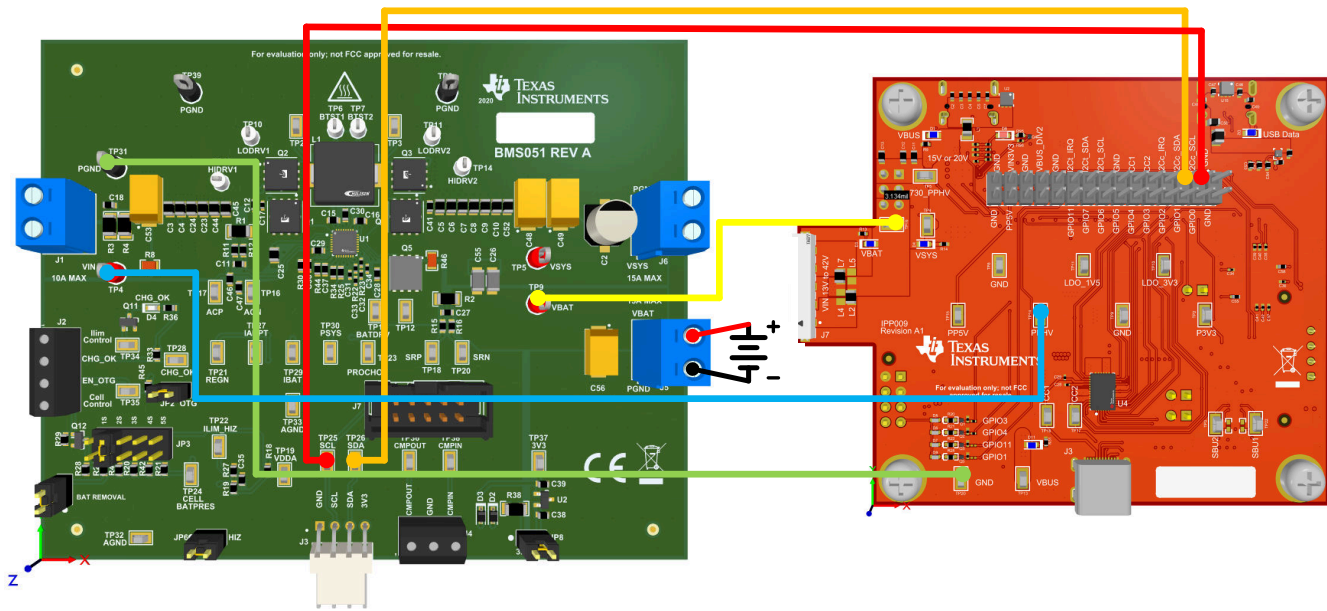
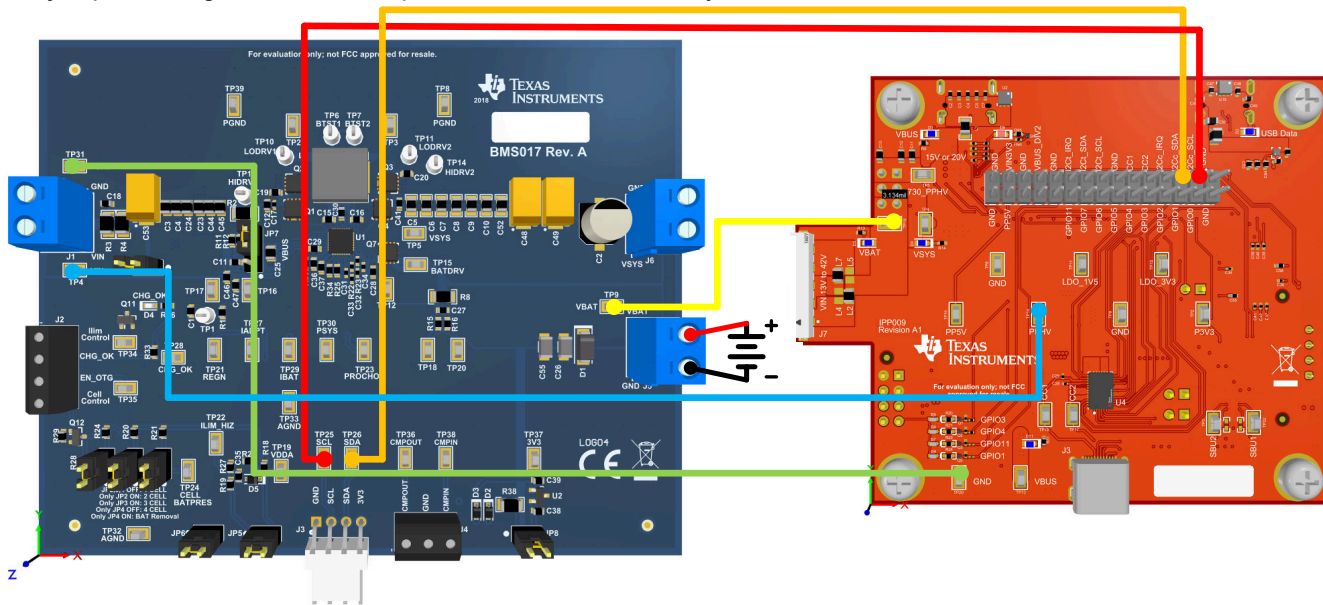

Figure 4-8. TPS25751EVM and BQ25731EVM Hardware Setup
Figure 4-9. TPS25751EVM and BQ25713EVM Hardware Setup
2. Figure 4-8 illustrates using the test hook clips or jumper wires to connect the two EVMs. See Figure 4-9 for details.
2. Use the test hook clips/jumper wires to connect the two EVMs as shown below. See Figure 4-9 for details.